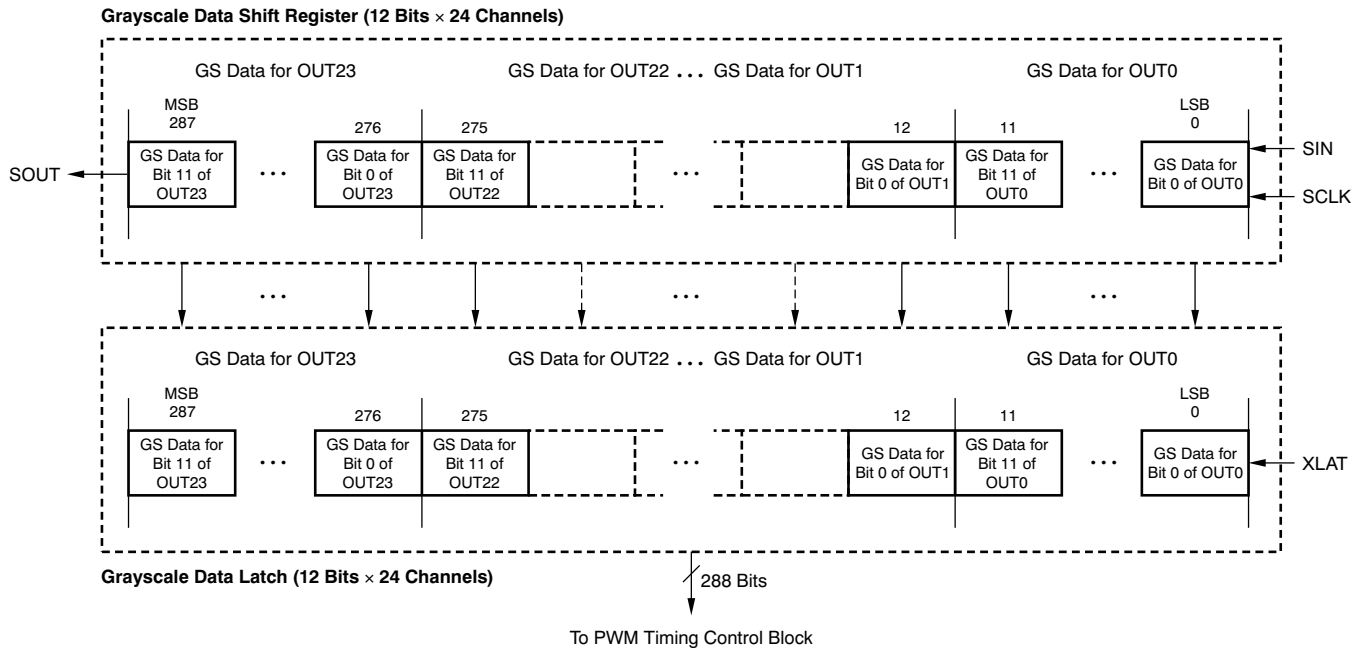

Figure 19. Grayscale Data Shift Register and Latch Configuration
The TLC5947 has a grayscale (GS) data shift register and data latch. Both the GS data shift register and latch are 288 bits long and are used to set the PWM timing for the constant current driver. Table 2 shows the on duty cycle for each GS data. Figure 19 shows the shift register and data latch configuration. The data at the SIN pin are shifted to the LSB of the shift register at the rising edge of the SCLK pin; SOUT data are shifted out on the falling edge of SCLK. The timing diagram for data writing is shown in Figure 20. The driver on duty is controlled by the data in the GS data latch.